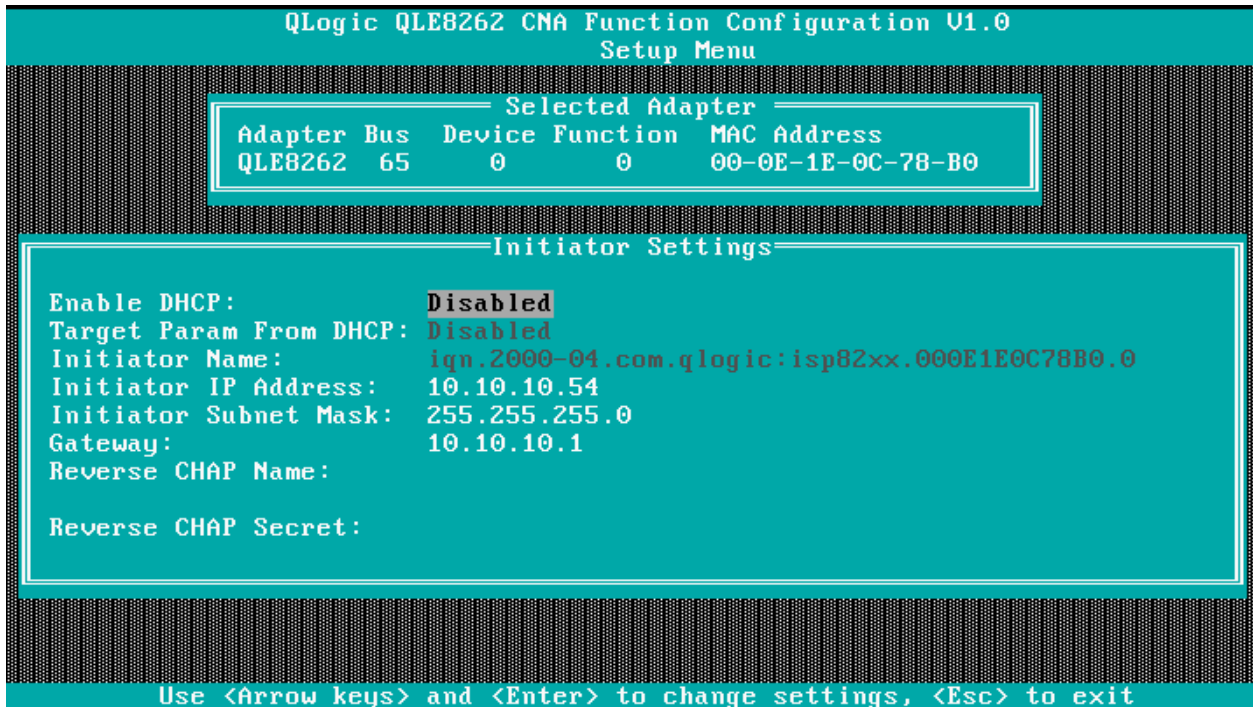

Figure 7 Initiator settings for QLogic network adapters
5. Enter the **Initiator Settings** menu and disable DHCP, and then enter the initiator details such as: Initiator IP address, subnet mask, and CHAP as needed. See Figure 7.